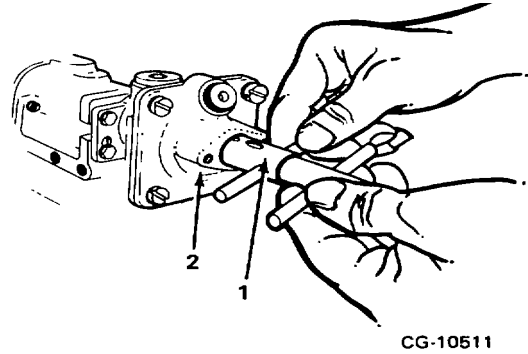

Figure 9. Adjusting Full Load Fuel Setting
- b. If not within specifications remove cover from rear of aneroid. Remove aneroid fuel adjustment plate. Using KDEP 1047 loosen inner jam nut then adjust outer nut clockwise to reduce power and fuel or counterclockwise to increase power and fuel (Figure 9).